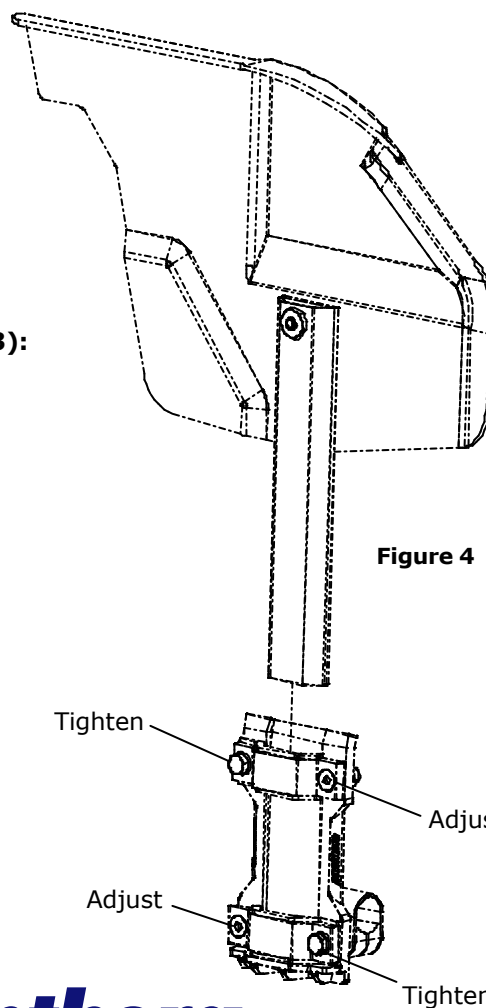

Figure 4
5. Push the sideguard down into the mounting. (**Figure 4**)
7. Adjust using the socket head cap so that the sideguard can be easily slotted in and removed. (**Figure 4**)